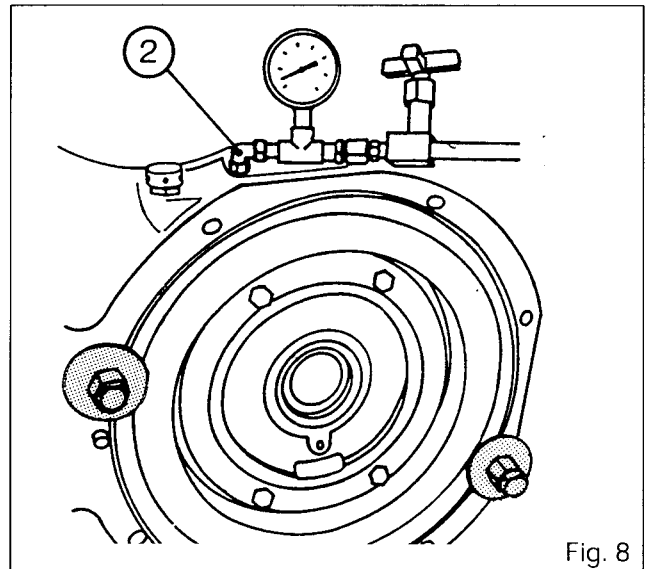

Fig. 8
11. Hold the piston with two large washers and two screws diametrically opposed (Fig. 8).
### Leak test (operations 12 to 15, Fig. 8).